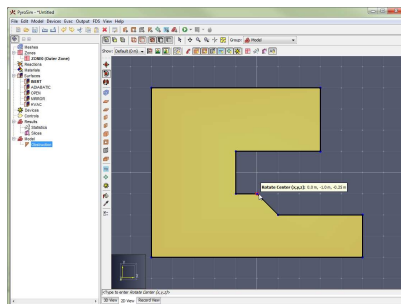

Figure 97. Click rotation center
3. Single-click to specify the rotation center (Figure 97).